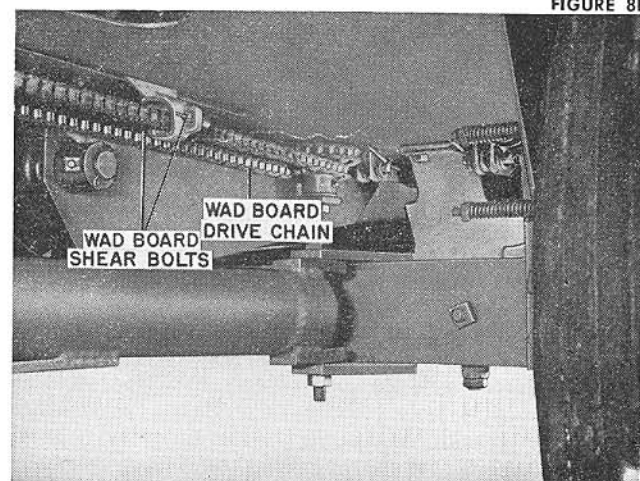

FIGURE 8C
The Model 66 baler is protected at three points by safety shear bolts: One $\frac{3}{8}$ " x $2\frac{3}{4}$ " special machine bolt in the flywheel; one $\frac{5}{16}$ " x 2" machine bolt in the knotter drive sprocket; and two $\frac{3}{16}$ " x $1\frac{1}{4}$ " stove bolts at the point where the plunger arm is connected to the wadboard drive chain (Figure 8C).
5. Reinstall the wadboard shear bolts (Figure 8C) in the holes in the plunger arm which allow the wadboard drive chain to be most nearly aligned.